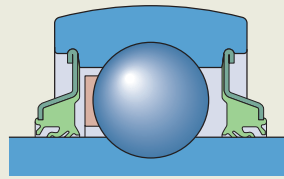

Fig. 24
- are fitted in a recess on the outer ring and ride against the inner ring shoulder to act as contact seals (fig. 24, designation suffix 2RS1)